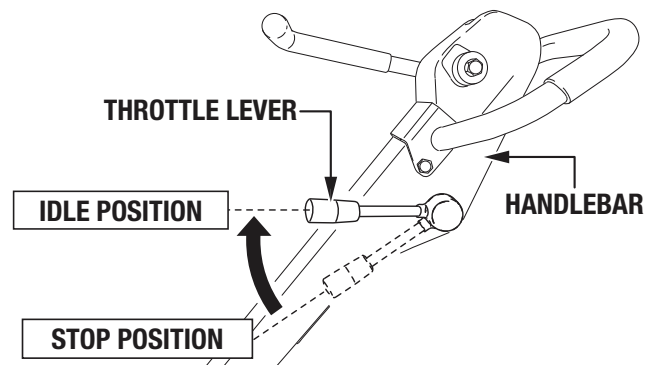

Figure 37. Throttle Lever (IDLE)
2. Move the throttle lever to the **IDLE** position (Figure 37).